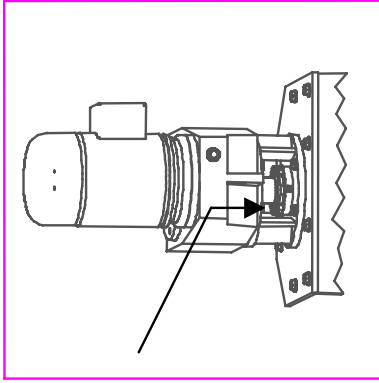

Figure 5.4b - Gland Cover Screws
5. Remove the gland cover screws from the packing box (see Fig 5.4b).